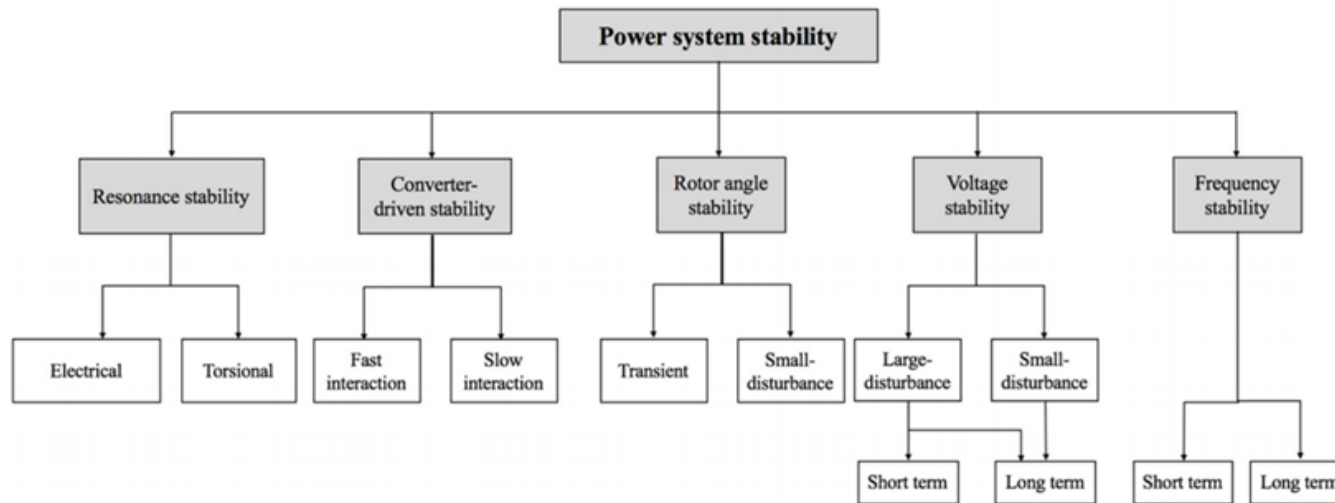

Fig. 4. Classification of power system stability
- The below image (from Figure 4 of [1]), and also shown lecture 2, helps define the terms